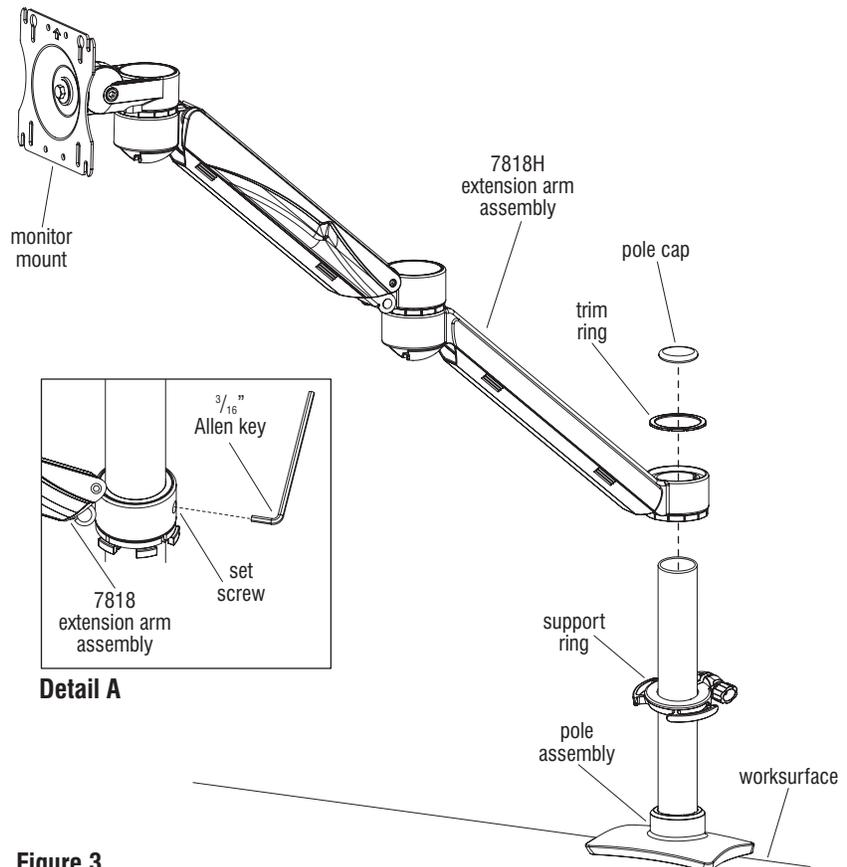

Figure 3
5. Place the 7818H extension arm assembly down the pole into position on top of the support ring (Figure 3). Tighten the set screw in the extension arm assembly for correct tension to pole assembly (Detail A).
6. Mount trim ring on top of the extension arm assembly (Figure 3).
7. Repeat process following steps 1 through 6 for mounting additional monitors, then insert the pole cap on top of the pole assembly (Figure 3).